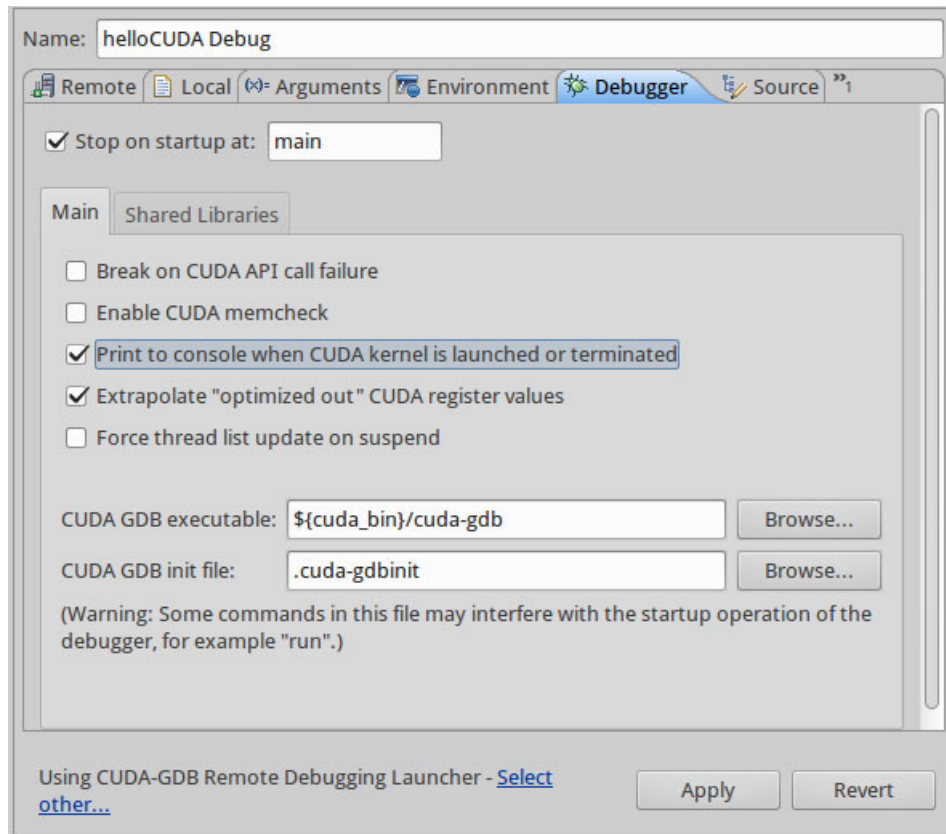

Figure 18 Remote tab at Debug configuration window
3. Switch to the **Debugger** tab and complete more configuration details for the session. By default, it halts at the main method but also in any breakpoint set in the host and kernel codes. Figure 18 on page 53 is an example of a default debugger configuration.